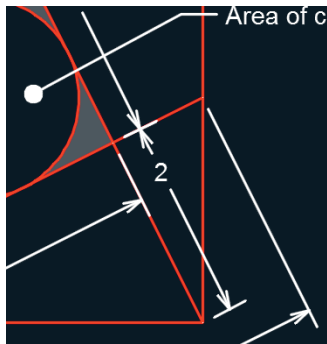

FIGURE 11.23 Changing dimension text justification with DIMEDIT
7. Type **L** (for Left), and press Enter. The dimension text is now left-justified in relation to the dimension line, so the 2 is more easily read within the space left between the red lines (see Figure 11.23).